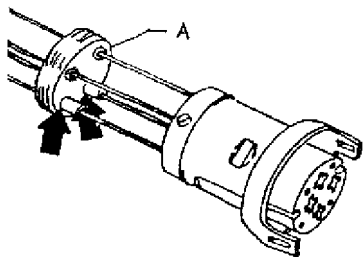

Fig. 18: Connector Housing Sealing Gasket & Rubber Tubes
- Remove both sealing gaskets (A) from connector housing with small screwdriver. See Fig. 18.
- Cut off rubber tubes (arrows) of sealing gasket. See Fig. 18.